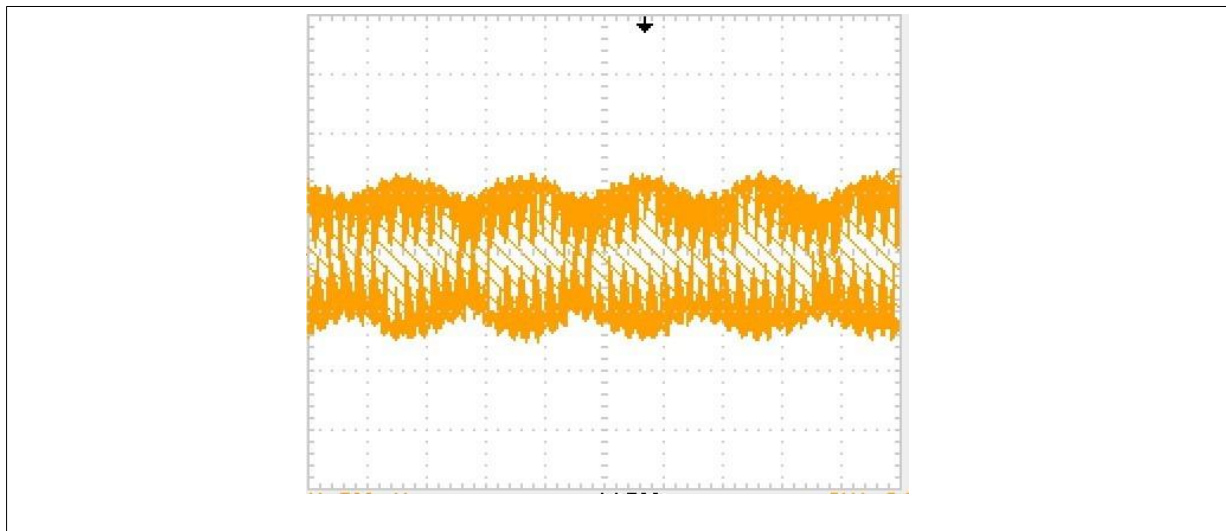

Figure 8: Oscilloscope photo of an AM modulated signal.
- Observe the signal between JP30 and GND. You should see an amplitude modulated (AM) 27.000 MHz signal as shown in Fig 8. Set your oscilloscope time scale to 500 μ s/div. Set the ACQUIRE mode to Peak-detect. This setting allows the oscilloscope to capture the peak of the RF signal even though the sampling rate of the oscilloscope is not enough to capture the RF signal itself. Increase the signal amplitude until AM signal gets distorted. At this point, determine the modulation index, m , of the AM signal using the following equation